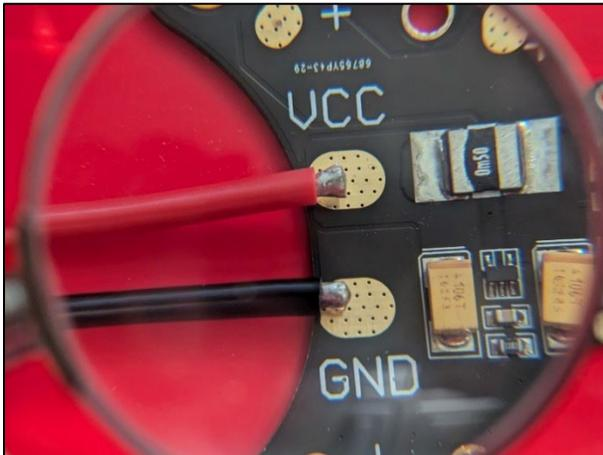

Figure 34 Power cable position
2. Solder the power cable to the power distribution board. The red wire should touch the VCC contact, and the black wire should touch the GND contact, as shown in **Figure 34**.